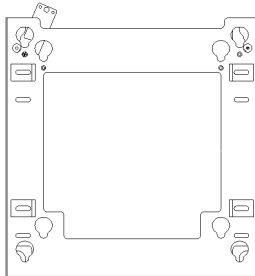
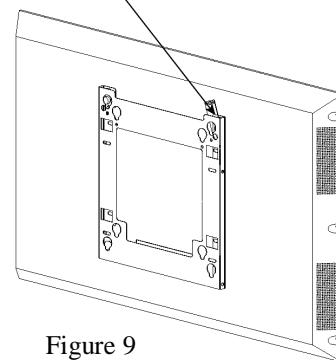

Figure 8
Figure 9
4. With the aid of another person, lift plasma display up to the Chief mount, aligning mounting buttons with the teardrop slots dependent upon the model plasma (see Figure 8 & Figure 9).